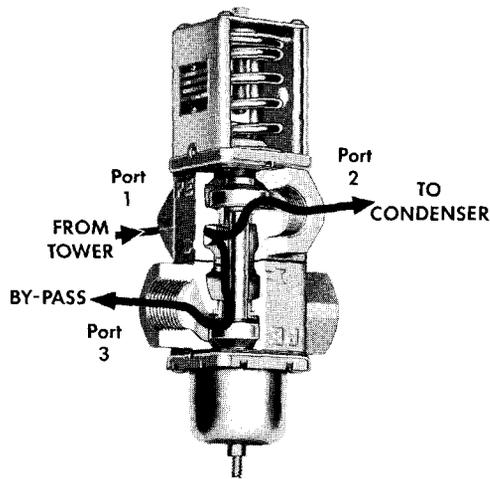

Fig. 2 — Cut-away section of Series 3246 sizes 1/2" through 1 1/4" illustrating water flow.
*See Fig. 2 for Port arrangements.